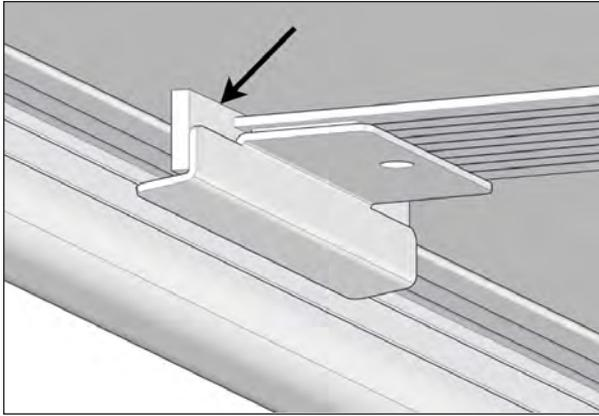

FIGURE 113: FINAL POSITION OF THE WIPER
At the final position of the wiper, the flap must touch the edge of the I-beam see Figure 113.
4. Stick the wiper bracket on the middle of the I-beam by holding it in place and maintaining pressure for at least 60 seconds. This ensures a proper bond to the I-beam. Make sure you install the wiper flap at the edge of the I-beam directly into the gap between the I-beam and the C-channel, see Figure 113.